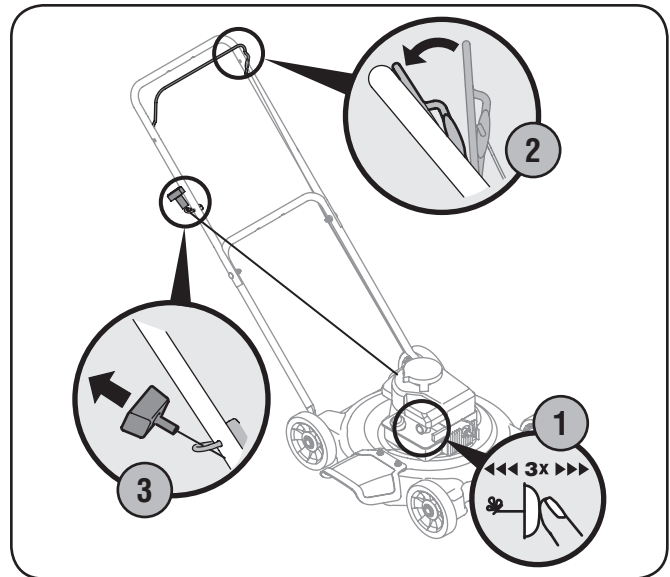

Figure 5-1
1. When starting the engine for the first time, push primer five times. For all future starts, push the primer three times. Wait about two seconds between each push. See Fig. 5-1. Do not prime to restart a warm engine.
3. Holding these two handles together firmly, grasp recoil starter handle and pull rope out with a rapid, continuous, full arm stroke. See Figure 5-1. Keeping a firm grip on the starter handle, let the rope rewind slowly. Repeat until engine cranks. Let the rope rewind each time slowly.